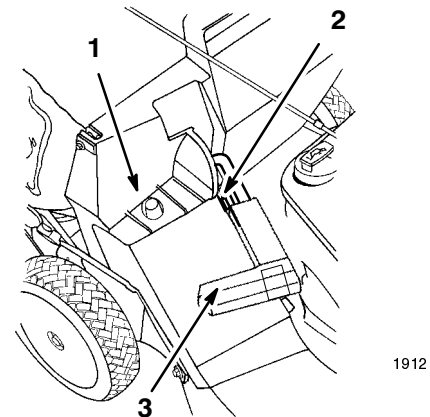
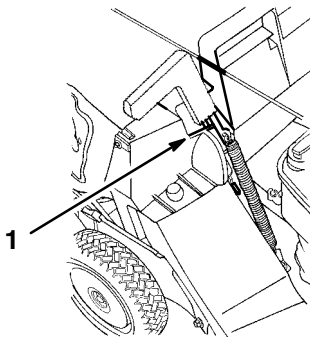

Figure 31
Figure 32
2. Ensure that the discharge door handle is fully forward and the pin is engaged in the catch (Fig. 31).
3. Slide the hole in the bag frame onto the retaining post on the discharge tunnel (Fig. 31).
5. Open the discharge door by pulling the discharge door handle forward until the pin clears the ramp on the bag door and moving the handle rearward until the pin locks in the bag notch (Fig. 32).
8. Pull the discharge door handle up and out of the bag notch (Fig. 32) and pull it forward until it engages the catch (Fig. 31).